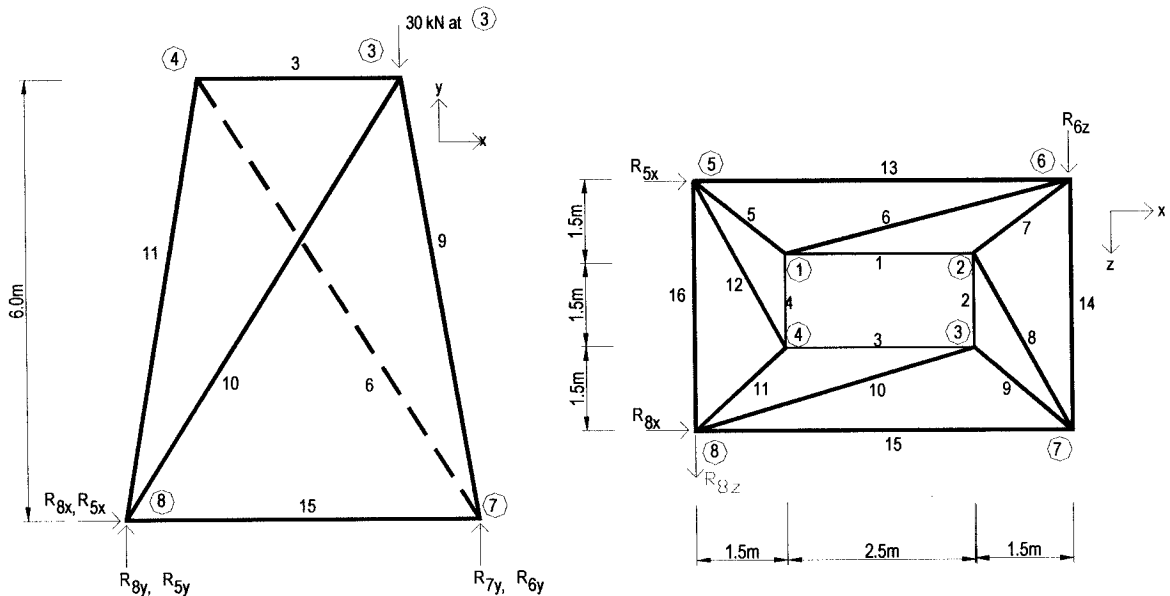

Fig 2
- (b) For the space truss in Fig. 2,